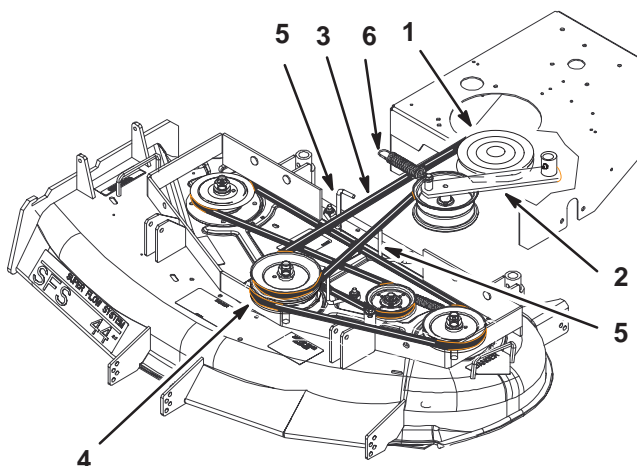

Figure 58
5. Remove the idler spring from idler arm. Remove the drive belt from the PTO engagement pulley and the center spindle pulley (Fig. 58).
6. Remove the worn drive belt (Fig. 58).
7. Install the new drive belt onto the PTO engagement pulley and the top groove of the center spindle pulley (Fig. 58).
8. Install belt onto idler pulley and then install idler spring (Fig. 58).
9. Adjust PTO drive belt guides an 1/8 in. (3 mm) from belt (Fig. 58).